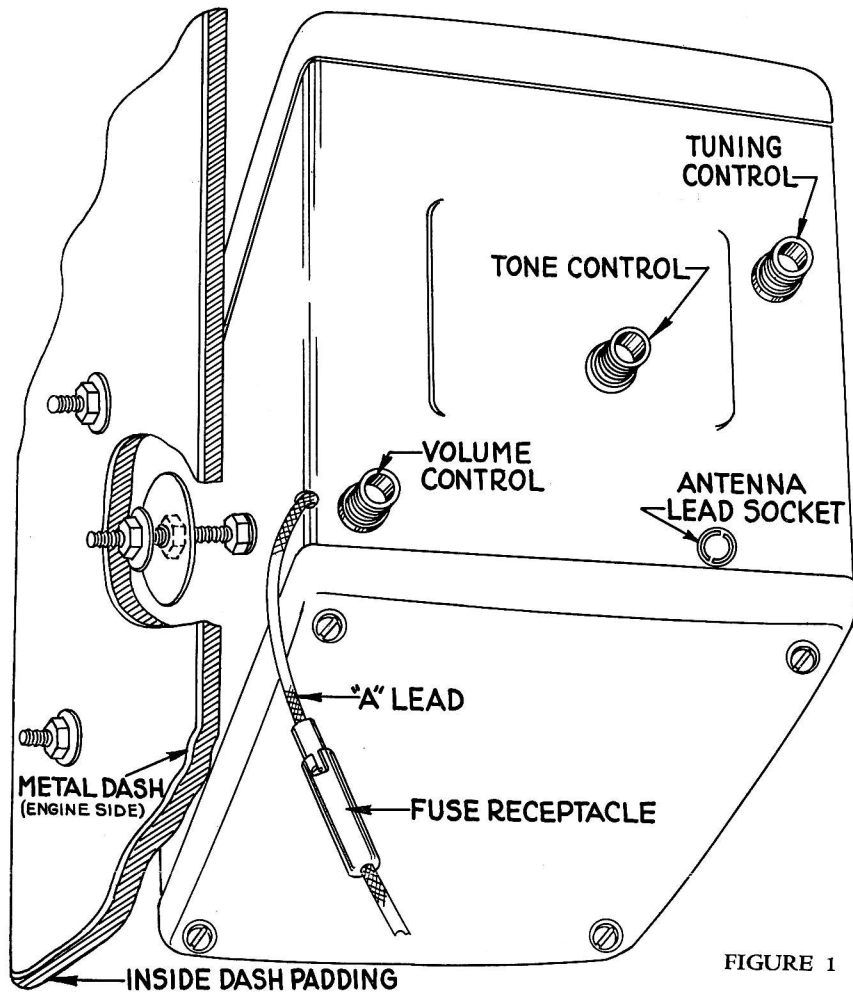
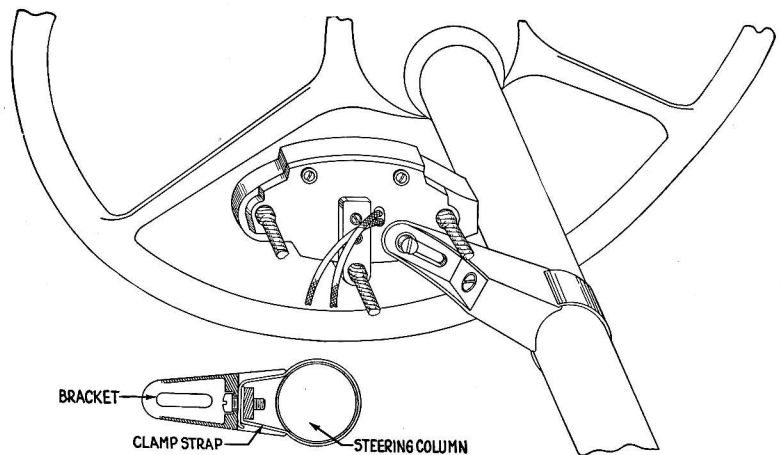
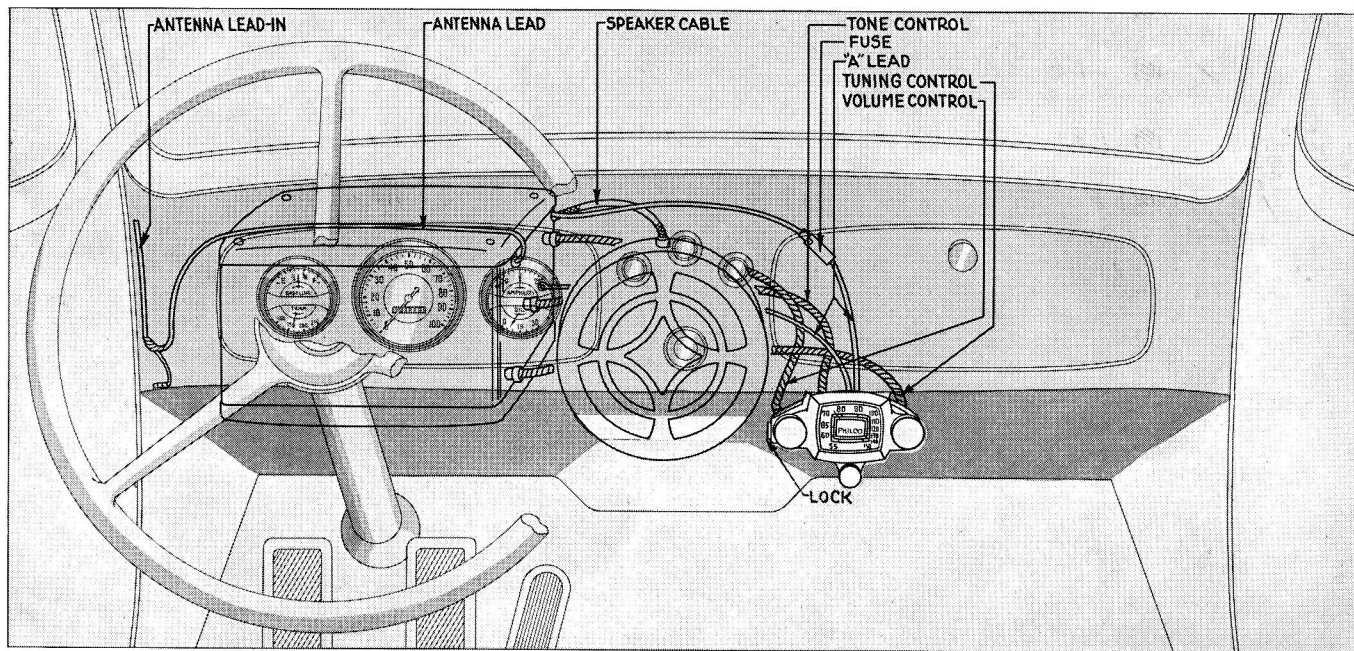

FIGURE 1
FIGURE 2
FIGURE 3
**RECEIVER AND SPEAKER INSTALLATION**—The Receiver and Speaker must be installed under the cowl on the dash. Be sure that in the location selected, there is ample foot room and that they do not in any way, interfere with the operation of the control pedals and ventilators. The Receiver can be installed on the right side of the dash, in the center or on the left side, above the steering column, while the Speaker can be installed on one side of the Receiver. Fig 3 shows a typical installation with the Receiver on the left side.
The standard mounting for the Receiver is with three studs. Figure 1 shows a detailed view of the Receiver installed on the right side of the dash, using three studs for mounting the Receiver. When installed on the right side or the left side, the control coupling end of the Receiver must be towards the center of the dash. When installed in the center of the dash, the
**CONTROL UNIT**—The control unit can be fastened to the bottom edge of the instrument board or on the steering column. Figure 2 shows how the control and the mounting bracket must be assembled on the steering column. Figure 3 shows a typical installation of the control on the instrument board. When used in this manner, bolt the "L" bracket to the rear of the control. Drill two holes in the instrument board flange in the desired location and fasten the bracket securely to the instrument board.
The tuning control and tone control flexible shafts must be coupled in their respective bushings on the Receiver housing. The knurled casing nuts must be securely tightened. Fig. 1 and Fig. 3 show the locations of the shaft bushings on the Receiver housing.
The speaker cable must be connected into the socket on the speaker housing. The antenna lead must be connected in its socket on the end of the Receiver housing. (See Figures 1 and 3).